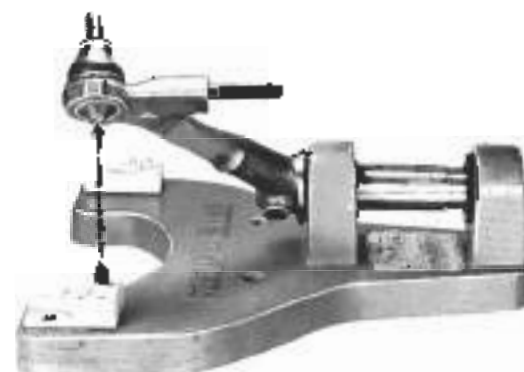

Fig. 7-5. Late-type ball joint. Point on jig should contact test surface on ball joint. Torsion arm shown is not for a Type 2 vehicle.
6. See whether the test point contacts the test jig measuring plate (or the point on the measuring plate contacts the test surface on the ball joint) as shown in Fig. 7-4 or Fig. 7-5.